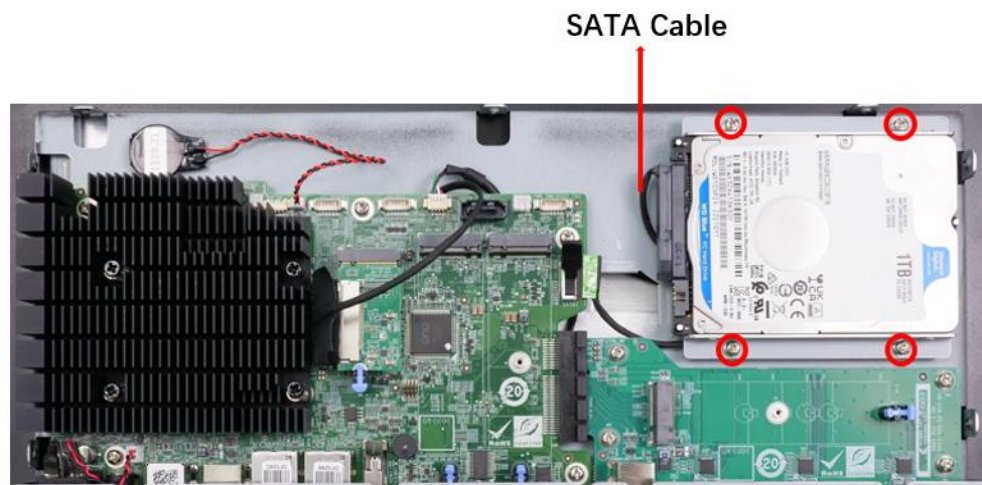

Figure 3-2: PPC2-Cxxx-EHL HDD Bracket Retention Screws
**Step 2:** Remove the HDD bracket from the PPC2-Cxxx-EHL Series. The HDD bracket is secured on the panel PC with four retention screws (**Figure 3-2**). Remove the four retention screws and disconnect the SATA and SATA power cables. Lift the bracket off the panel PC.